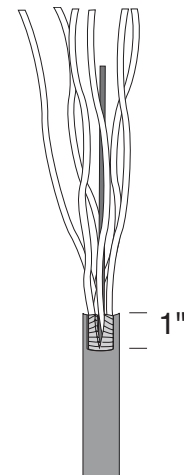
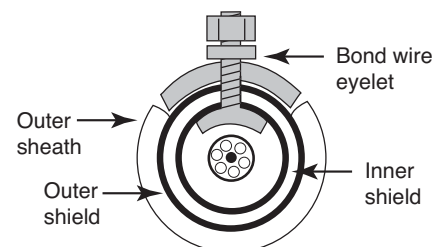

Fig. 2
Fig. 3
5. If you are using a B-Bond clamp on double-armored cable, remove a 1" square section of the outer cable sheath around the tab (Figure 2). Slide the lower plate of the bond clamp under the inner shield so that the stud bolt sticks up through the tab. Place the upper plate of the B-Bond clamp over the bolt. Place a double-eyelet bond wire (available in the FOSC ACC bond wire kit) over the bolt. Install the nut on the bolt and tighten it. Cut off the excess stud bolt and file it flush with the nut. (Figure 3)